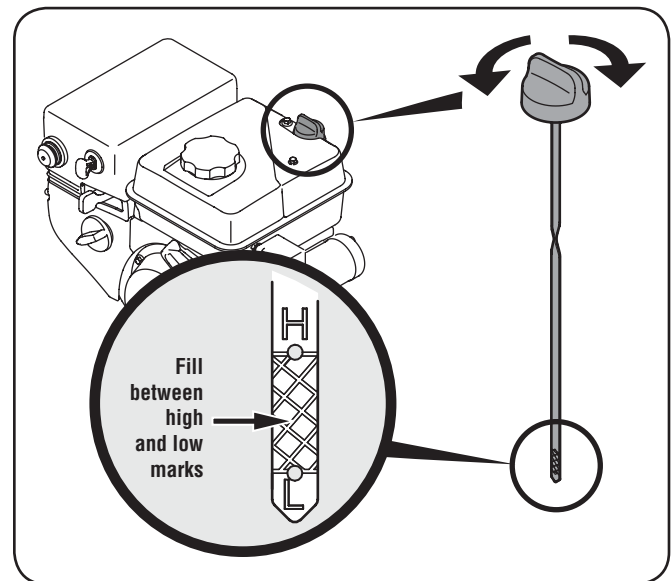

Figure 3-2
- Keep oil level between the high (H) and low (L) marks on dipstick. See Fig. 3-2.
1. Remove the oil filler cap/dipstick and wipe the dipstick clean. See Fig. 3-2.
3. Remove the oil filler cap/dipstick. If the level is low, slowly add oil until oil level registers between high (H) and low (L), Fig. 3-2.
4. Loosen and remove the oil fill cap dipstick from the oil filler tube. Note the oil level, if oil reading on the dipstick is below the low (L) mark, slowly add oil to reach the high (H) mark. See Fig. 3-2 or 3-3, whichever is applicable.